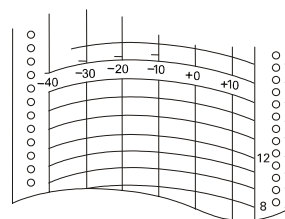

Fig. 1
1. The information on the recording chart is shown in Fig. 1.
1. Open the door and let down the pen-holder lever; the pen point is apart from the recording chart. (Fig. 1)
1. Attach the fixture to the temperature recorder with two screws. (Fig. 1)